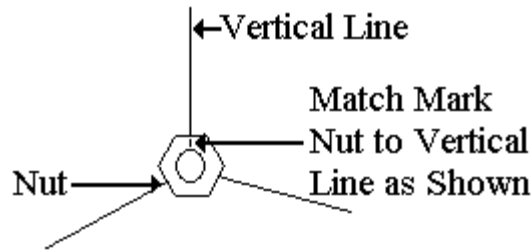

Figure 8
- E. Match mark the nut to the vertical line marked on the steel section in 3.2 A as shown below in figure 8. (It may facilitate testing if the wrench socket is also match marked to the vertical line on the face plate.)